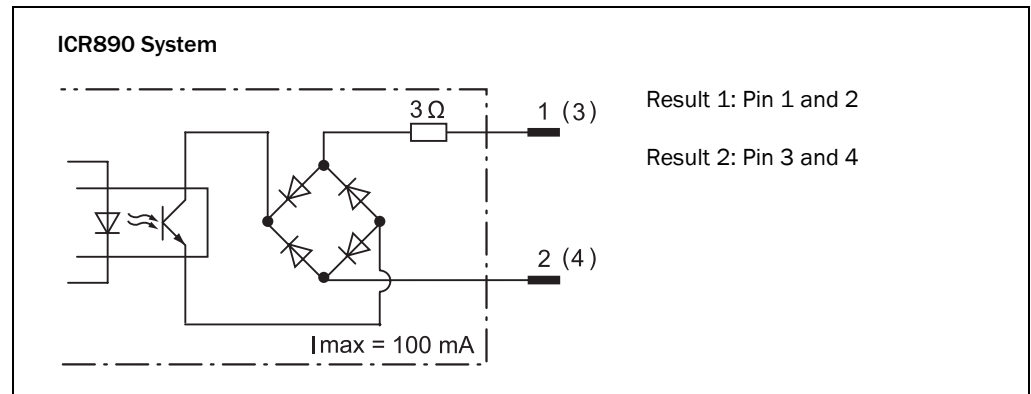

Abb. 5-9: Wiring of the switching outputs Result 1 and Result 2
An appropriate visualization PC or PLC for system status indication is connected via these two digital switching outputs. Fig. 5-9 shows the wiring of switching output Result 1 as an example. Tab. 5-16 contains ratings for both outputs.
- Connect the visualization PC/PLC to switching output Result 1 and/or Result 2, as shown as an example in Fig. 5-9.